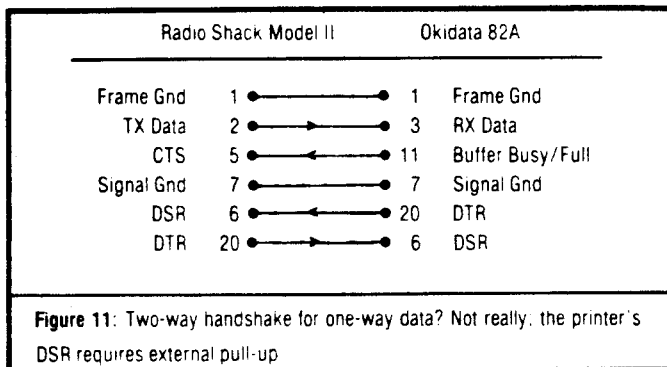

Figure 11: Two-way handshake for one-way data? Not really, the printer's DSR requires external pull-up
Figure 11 shows Okidata's suggested connecting cable between an 82A printer and a Radio Shack Model II's built-in serial port. Notice that the printer's busy signal (11) is connected to the computer's CTS (5) input, with the DTR/DSR pair crossed over. Compare this with figure 9.